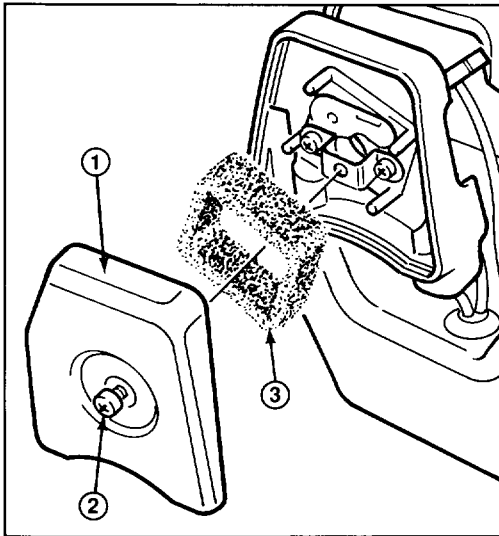

Figure 17
SERVICING AIR CLEANER (Fig. 17)
1. Remove one (1) screw securing air cleaner cover.
5. Reinstall air cleaner components as shown in Figure 17.